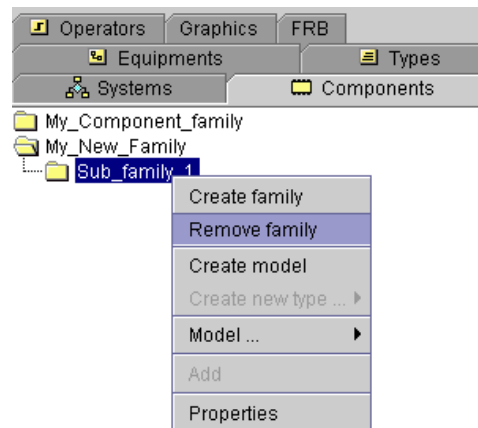

Figure 62: Remove a family or project from the library
- ◆ Right click to display the contextual menu and select **Remove family** or **Remove > Project** (Figure 62)